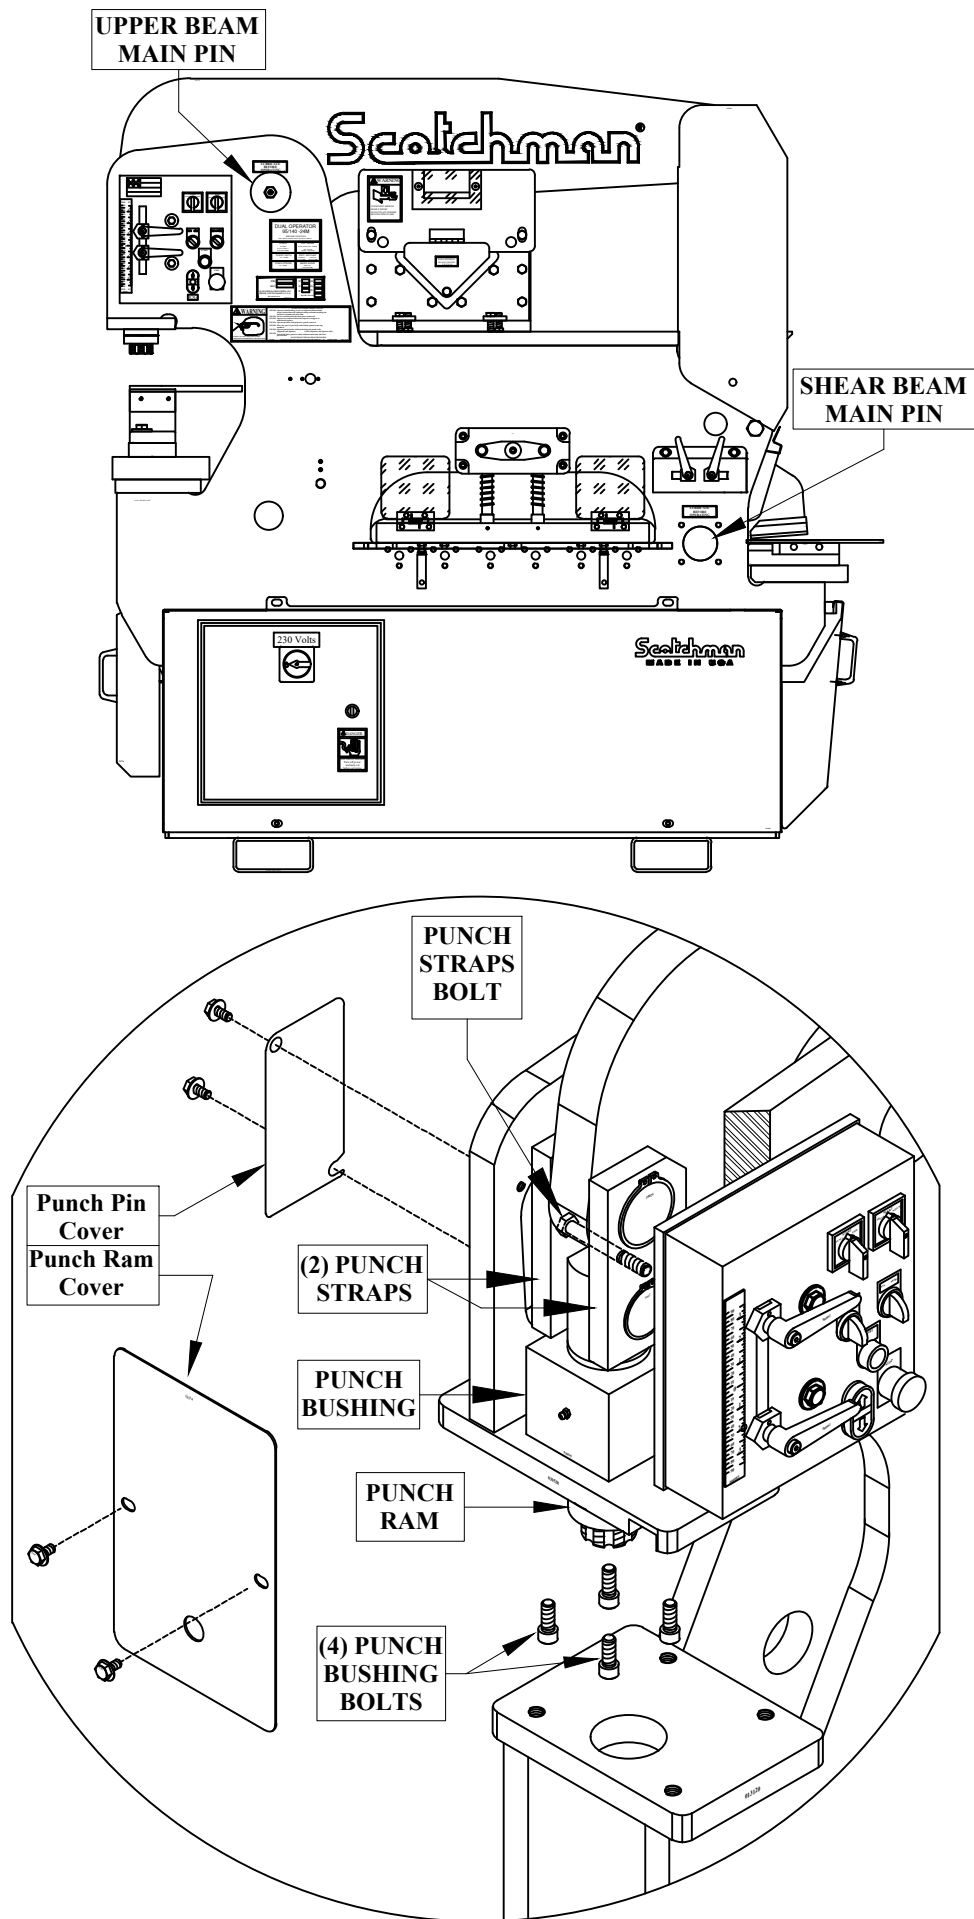

FIGURE 10
- A. Check the tolerance between the punch ram and the punch ram bushing. For parts identification, SEE FIGURE 10 ON THE FOLLOWING PAGE.**